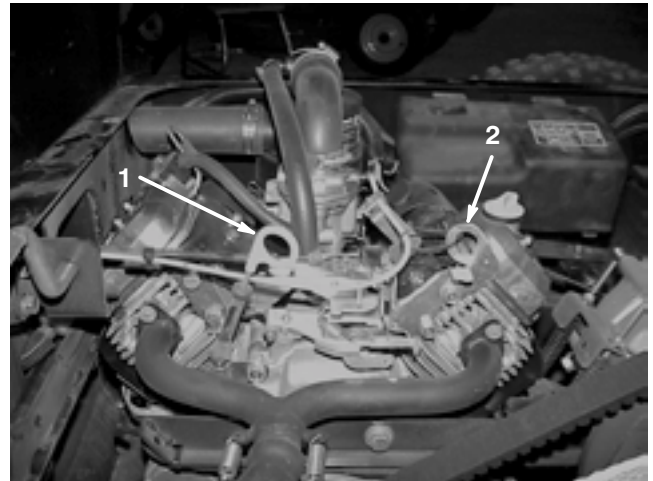

Figure 19
- A. Attach a short section of chain between both engine lift tabs (Fig. 19).